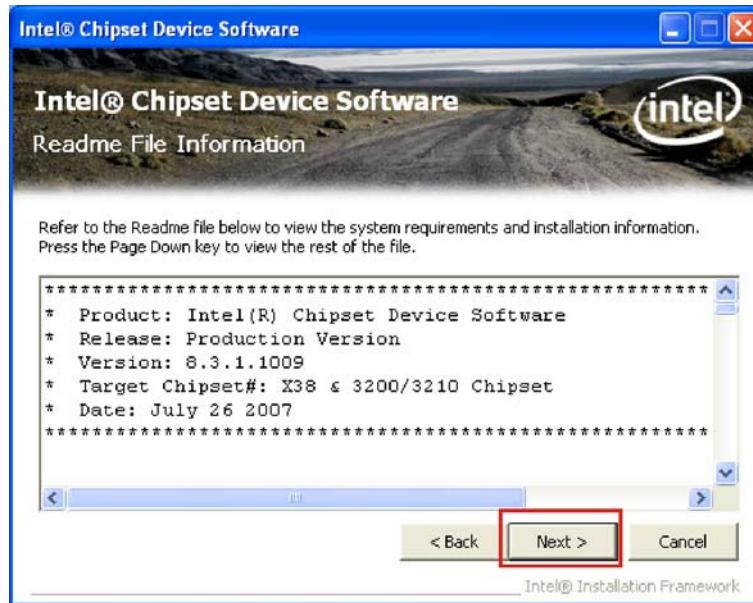

Figure 7-6: Chipset Driver Read Me File
Step 10: The Read Me file in Figure 7-6 appears.